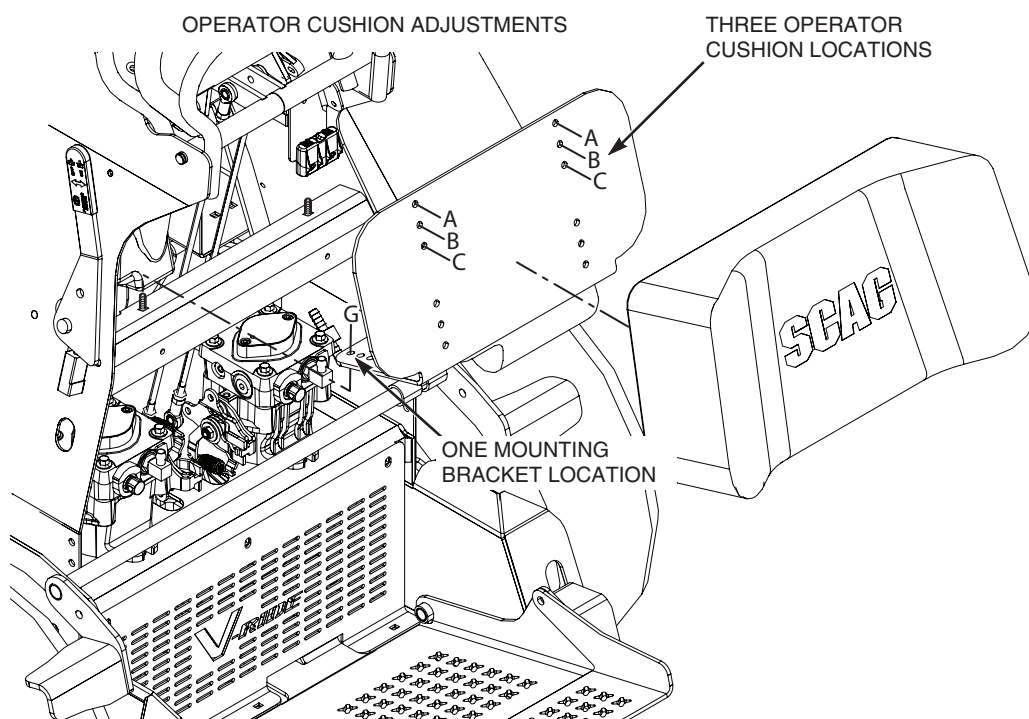

Figure 6-12. Operator Cushion Adjustment
The operator cushion can be mounted in three (3) different positions to fit a wide range of operators. See Figure 6-12.
2. Install and secure the operator cushion in the A, B or C location for the desired position for comfort. See Figure 6-12.